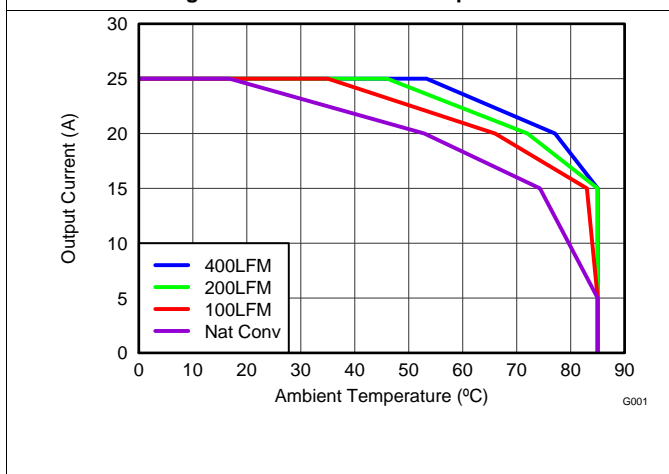
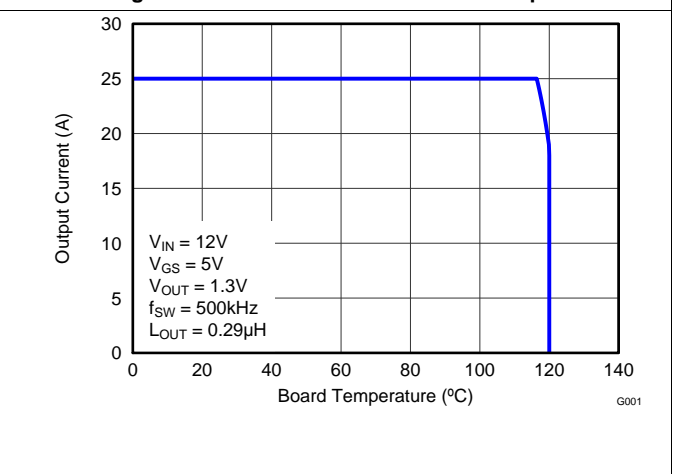

Figure 3. Safe Operating Area – PCB Horizontal Mount
Figure 4. Typical Safe Operating Area
$T_J = 125^{\circ}\text{C}$, unless stated otherwise. The Typical Power Block System Characteristic curves Figure 3 and Figure 4 are based on measurements made on a PCB design with dimensions of 4.0 inches (W) × 3.5 inches (L) × 0.062 inch (H) and 6 copper layers of 1 oz. copper thickness. See *Application and Implementation* for detailed explanation.
$T_J = 125^\circ\text{C}$, unless stated otherwise. The Typical Power Block System Characteristic curves Figure 3 and Figure 4 are based on measurements made on a PCB design with dimensions of 4.0 inches (W) x 3.5 inches (L) x 0.062 inch (H) and 6 copper layers of 1 oz. copper thickness. See Application and Implementation for detailed explanation.
The SOA curves in the CSD87588N data sheet provide guidance on the temperature boundaries within an operating system by incorporating the thermal resistance and system power loss. Figure 3 to Figure 4 outline the temperature and airflow conditions required for a given load current. The area under the curve dictates the safe operating area. All the curves are based on measurements made on a PCB design with dimensions of 4 inches (W) x 3.5 inches (L) x 0.062 inch (T) and 6 copper layers of 1 oz. copper thickness.